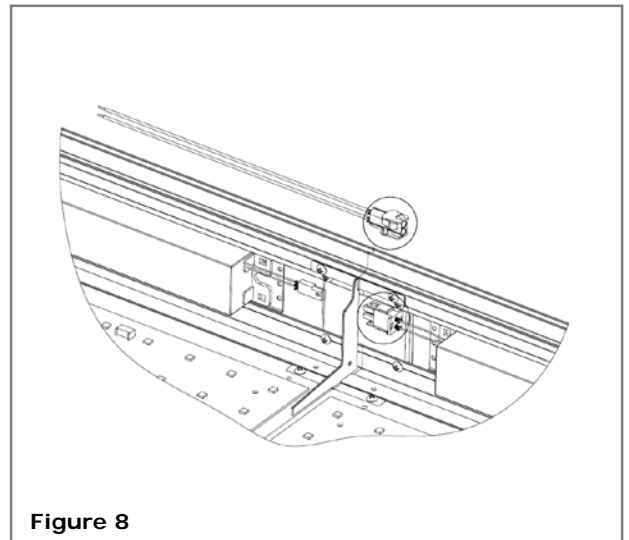

Figure 8
2. Make the connection between sections by inserting the male connector into the female connector. **See Figure 8.**